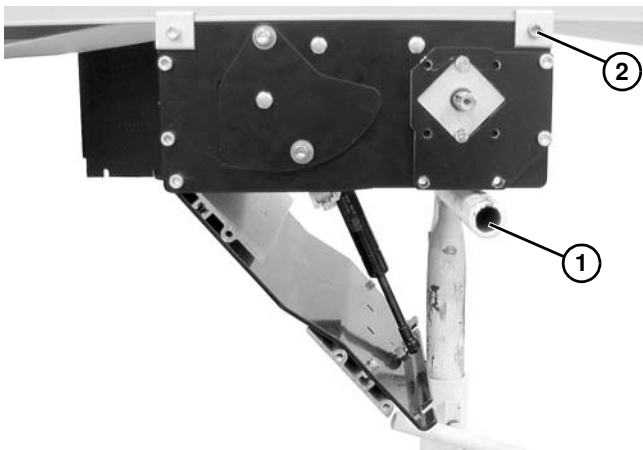

Figure 38
1. Place temporary support (**Figure 38, item 1**) underneath the drive module.
2. Loosen clamp screws (**Figure 38, item 2**) on each corner of the module. Remove the module.